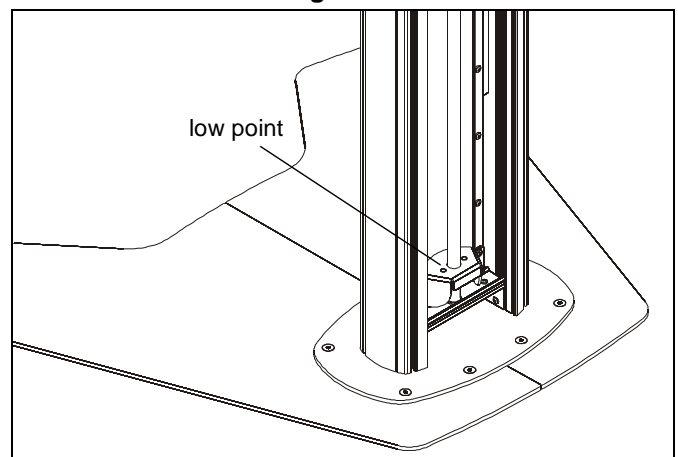

Figure 12
- Turn height adjustment knob counterclockwise to lower display. (See Figure 12)